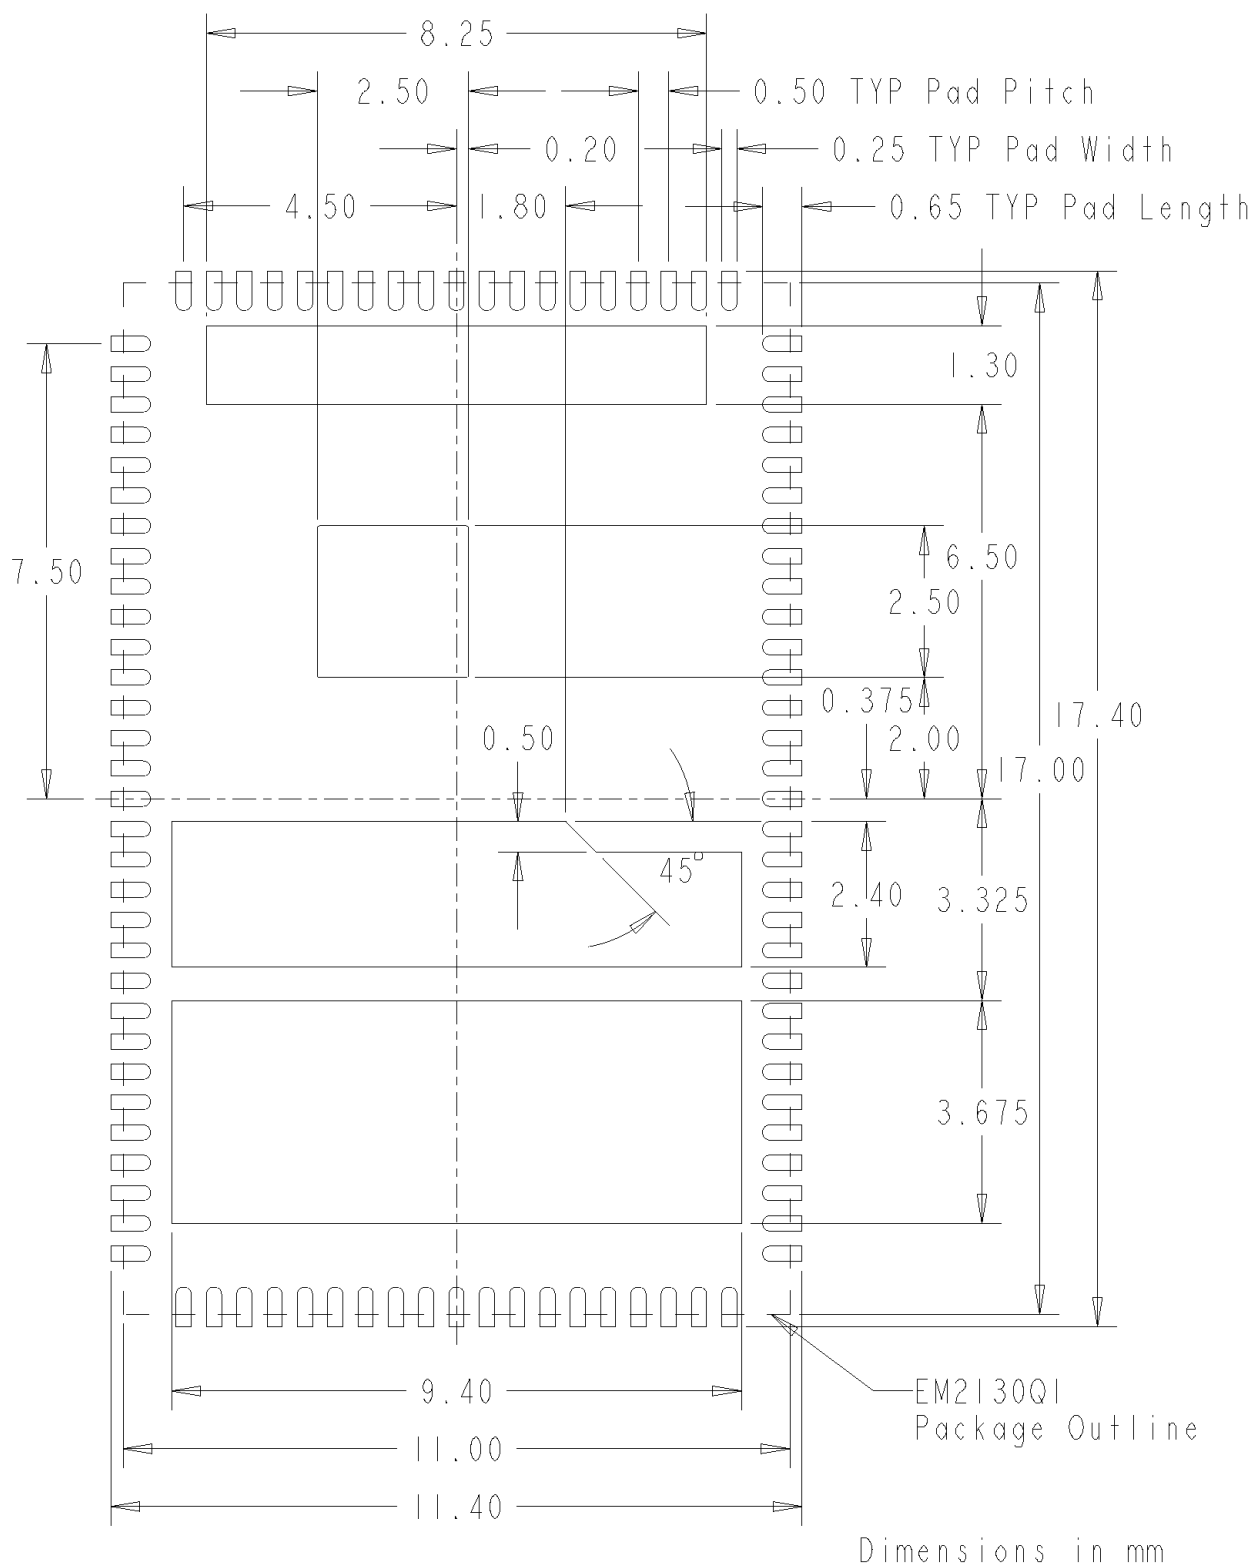

**Figure 20: Remote Sense Routing On An Inner Layer (Highlighted, Yellow)**
**Recommendation 7:** Figure 20 also shows the 0Ω resistor that connects AGND to PGND. The recommended connecting point, as shown, is to a quiet PGND → the output capacitors PGND.